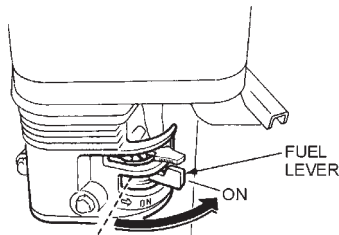

Figure 8. Engine Fuel Valve Lever (ON Position)
1. Place the engine **fuel valve lever** (Figure 8) to the "ON" position.